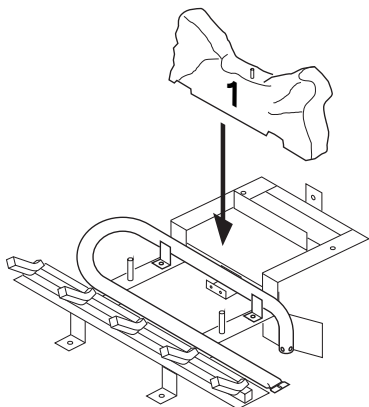

Figure 40 - Installing Log No. 1
1. Place log #1 (rear log) on top of grate. Make sure notches in bottom of log fit over grate (see Figure 40, page 25).